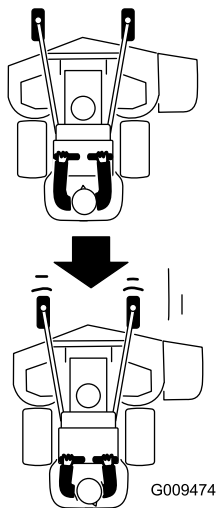

Figure 21
3. Slowly pull the motion-control levers rearward (Figure 21).